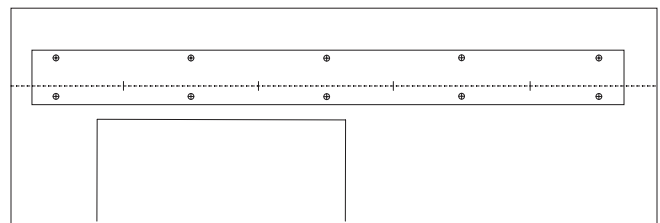

Figure 8
10. Header installation is complete (Figure 8). Proceed with track installation on pages 4 and 5.